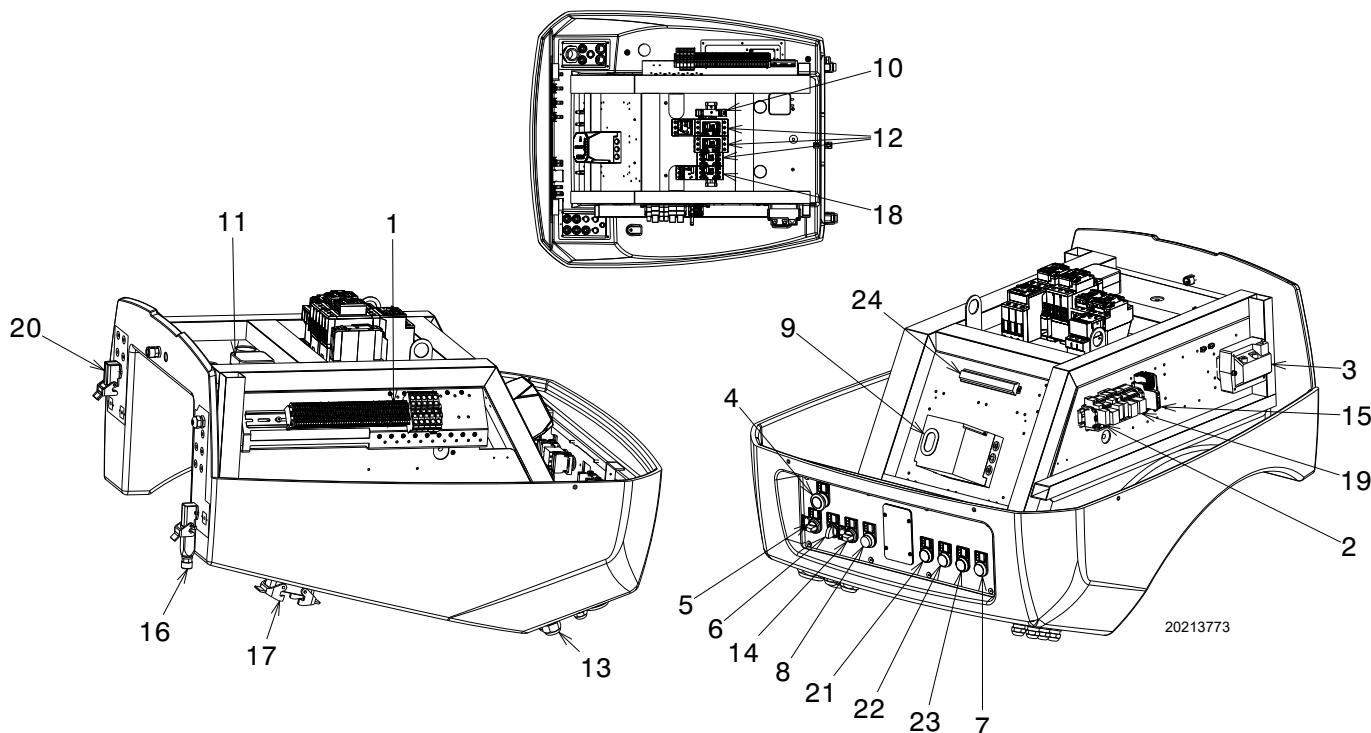

Fig. 5
- **Flame control lockout:** if the button (red LED) of flame control 9(Fig. 5) and signal button 8) light up, the burner is locked out. Release by pressing button 8).